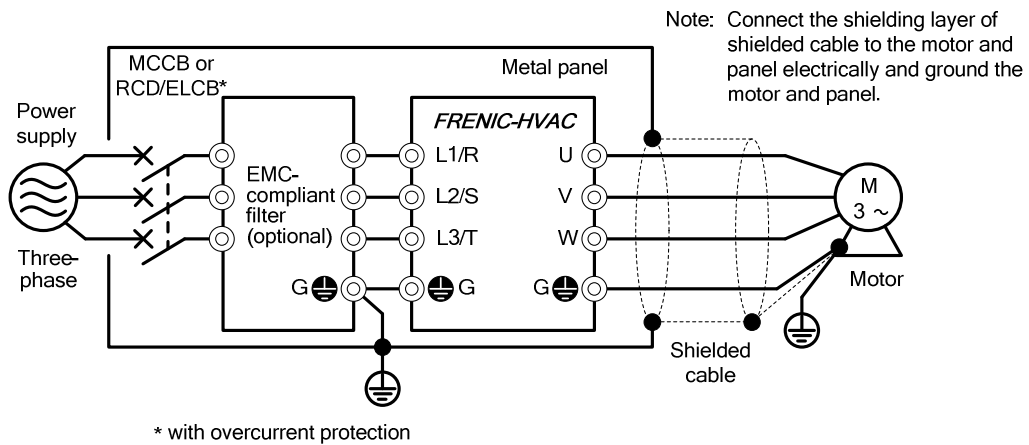

Figure 11.2-1 Mounting the Inverter with EMC-compliant Filter in a Metal Panel
- 5) When connecting an EMC-compliant filter (option) to the inverter externally, mount the inverter and the filter on a grounded panel or metal plate as shown in Figure 11.2-1. If radiation noise from the inverter exceeds the permission level, enclose the inverter and its peripherals in a metal panel. For the combination of the inverter and the filter, see Table 11.2-1.